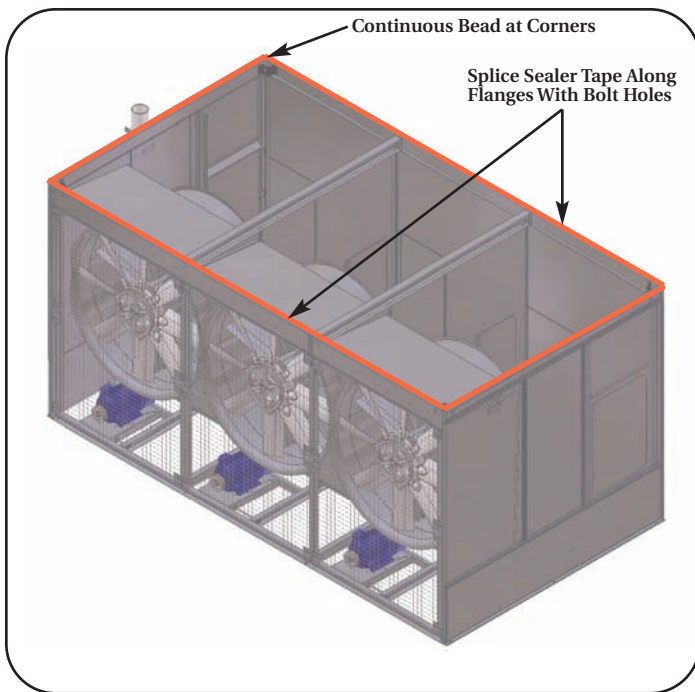

Figure 3
Do not overlap or stretch too thinly at the corners. When it is necessary to splice the sealer, press the two ends together to form a smooth, continuous strip. The sealer is to be spliced only along the flanges with holes (Figure 3).
9. On units with more than one casing, install the remaining casings using the same procedure as the first. When installing two or more casings, on the basin section, sealer tape must be applied to both cross flanges. (Figure 3)